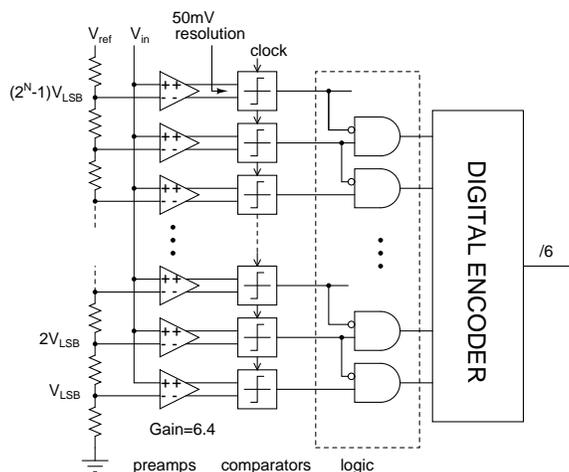

Figure 1:
2. Fig. 1 shows a 6 bit 2 GSamples/s flash A/D converter with $V_{ref} = 1$ V. It has a two input gate array to convert the thermometer code to a “1 of N” code. What is the minimum clock skew that can cause bubble errors? Compare it to the answer for midterm, problem (3).